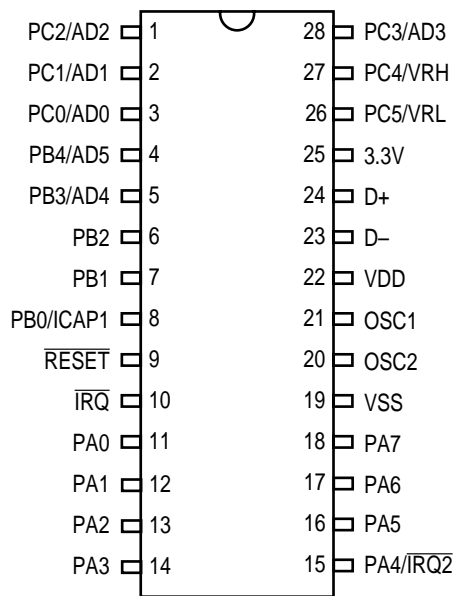
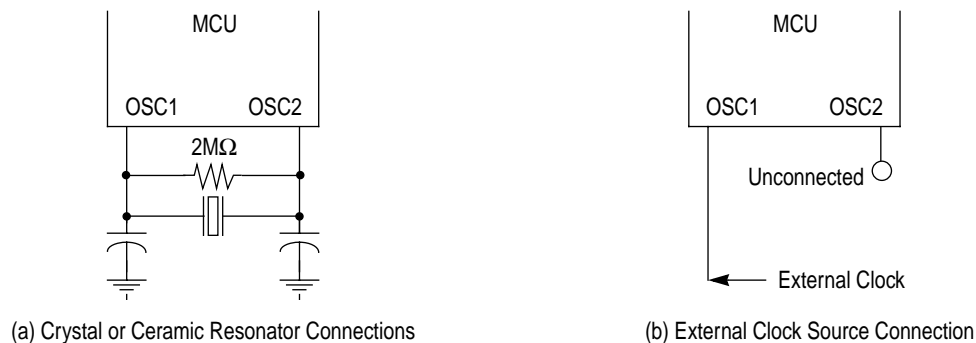

Figure 1-2. MC68HC05JB4 Pin Assignment
Figure 1-3. Oscillator Connections
The following paragraphs give a description of the general function of each pin assigned in Fig. 1-2 and Fig. 1-3.
1. A crystal as shown in **Figure 1-3(a)**
2. A ceramic resonator as shown in **Figure 1-3(a)**
3. An external clock signal as shown in **Figure 1-3(b)**
The circuit in **Figure 1-3(a)** shows a typical oscillator circuit for an AT-cut, parallel resonant crystal. The crystal manufacturer's recommendations should be followed, as the crystal parameters determine the external component values required to provide maximum stability and reliable start-up. The load capacitance values used in the oscillator circuit design should include all stray capacitances. The crystal and components should be mounted as close as possible to the pins for start-up stabilization and to minimize output distortion. An internal start-up resistor of approximately $2\text{M}\Omega$ is provided between OSC1 and OSC2 for the crystal type oscillator as a mask option.
In cost-sensitive applications, a ceramic resonator can be used in place of the crystal. The circuit in **Figure 1-3(a)** can be used for a ceramic resonator. The resonator manufacturer's recommendations should be followed, as the resonator parameters determine the external component values required for maximum stability and reliable starting. The load capacitance values used in the oscillator circuit design should include all stray capacitances. The ceramic resonator and components should be mounted as close as possible to the pins for start-up stabilization and to minimize output distortion. An internal start-up resistor of approximately $2\text{M}\Omega$ is provided between OSC1 and OSC2 for the ceramic resonator type oscillator as a mask option.
An external clock from another CMOS-compatible device can be connected to the OSC1 input, with the OSC2 input not connected, as shown in **Figure 1-3(b)**. This configuration is possible **ONLY** when the crystal/ceramic resonator mask option is selected.